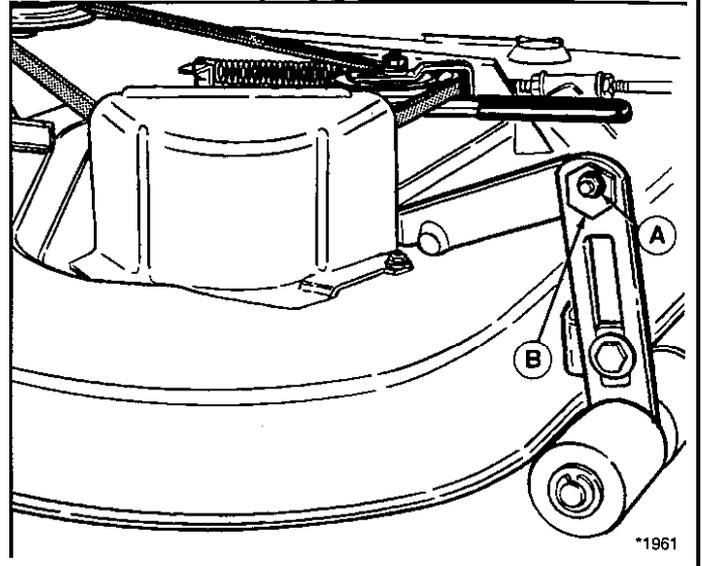

Figure 39. Leveling The Mower Side-to-Side
5. See Figure 39. Loosen the outside nut (A). Turn the eccentric nut (B) to raise or lower left-hand side of mower. When mower is level, hold the eccentric nut while tightening the outside nut.